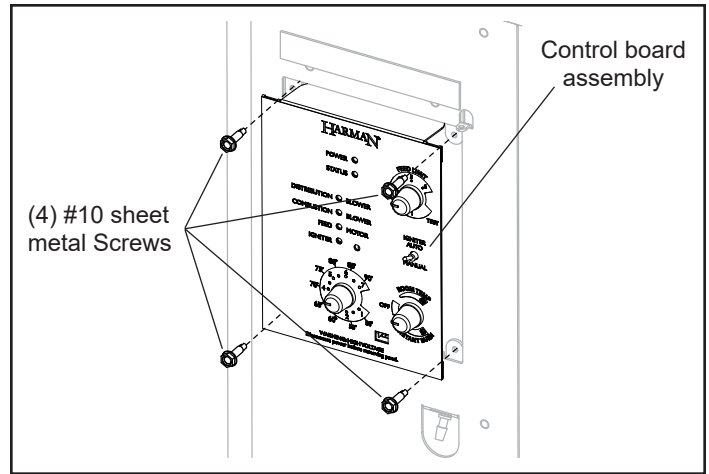

Figure 5.7 - Install control board assembly.
Using (4) black sheet metal screws located in the hardware pack, install control board assembly, Figure 5.7.